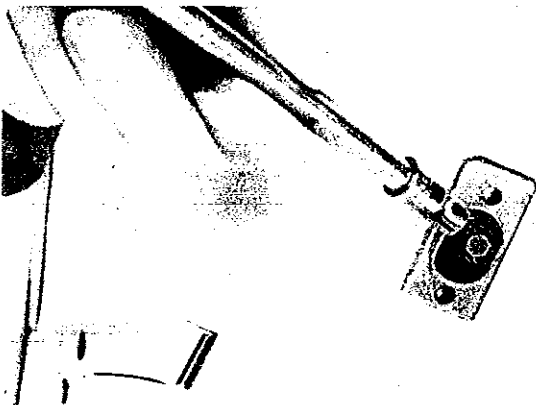

Figure 2. Loosen connecting screw.
- B. Loosen the hex head machine screw connecting the column link rod and the shift rod (Figure 2). Do not remove at this point.